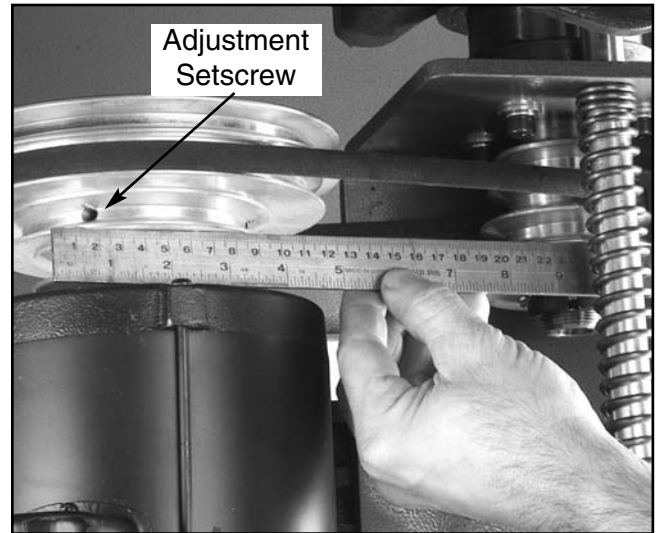

Figure 26. Inspecting pulley alignment.
2. Check the alignment with a straightedge. If the pulleys are in alignment, the straightedge should touch two sides of each pulley evenly as in **Figure 26**.
7. You can also make small adjustments in the motor pulley alignment by raising or lowering it along the motor shaft. To do this, loosen the two setscrews (one is shown in **Figure 26**) which are in the lowest groove of the motor pulley and move the pulley into position. Tighten the setscrews when the alignment is satisfactory.